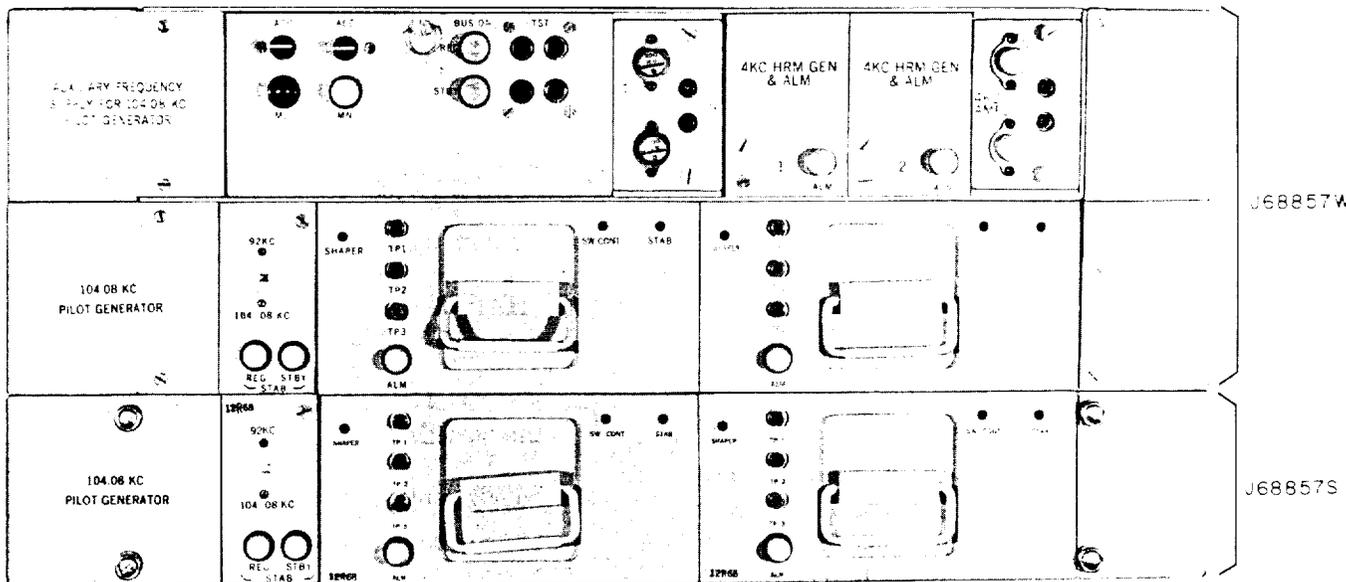

Fig. 1—104.08-kHz Pilot Supply Units
1.02 *Auxiliary frequency supply panel*, top panel in Fig. 1, requires two 4-kHz input signals from a primary frequency supply and provides 100-kHz and 204-kHz output signals.
1.03 *J68857S pilot generator unit*, bottom panel in Fig. 1, generates the 104.08-kHz group pilot, primarily for LMX-2 equipment. This unit requires 100-kHz and 204-kHz input signals and provides three 104.08-kHz outputs. This unit includes two 104.08-kHz generators. A switching circuit automatically transfers the load to the standby generator upon failure of the regular generator.